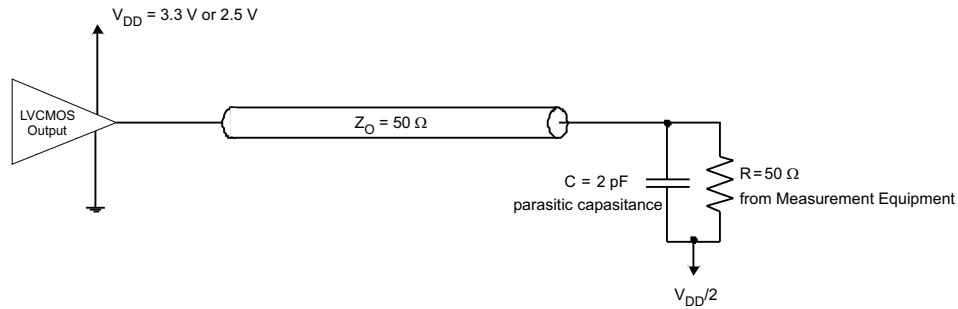

Figure 5. Test Load Circuit
- (1) All typical values are at respective nominal V_{DD} . For switching characteristics, outputs are terminated to 50 Ω to $V_{DD}/2$ (see Figure 5).